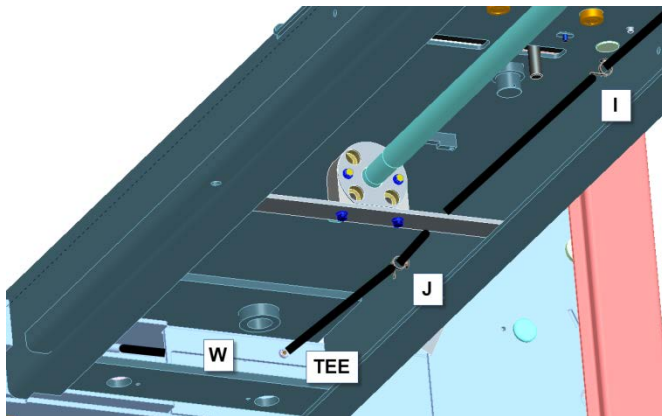

Figure 36
- Route air line thru tie “J” on deck and connect to the T-fitting on the left side of the rear cross-member. If necessary, reach with the hand thru window “W” in rear cross-member to hold T-fitting while inserting air line. (**Fig.36**). Ensure that the air line runs above the cross-deck stiffener bars.